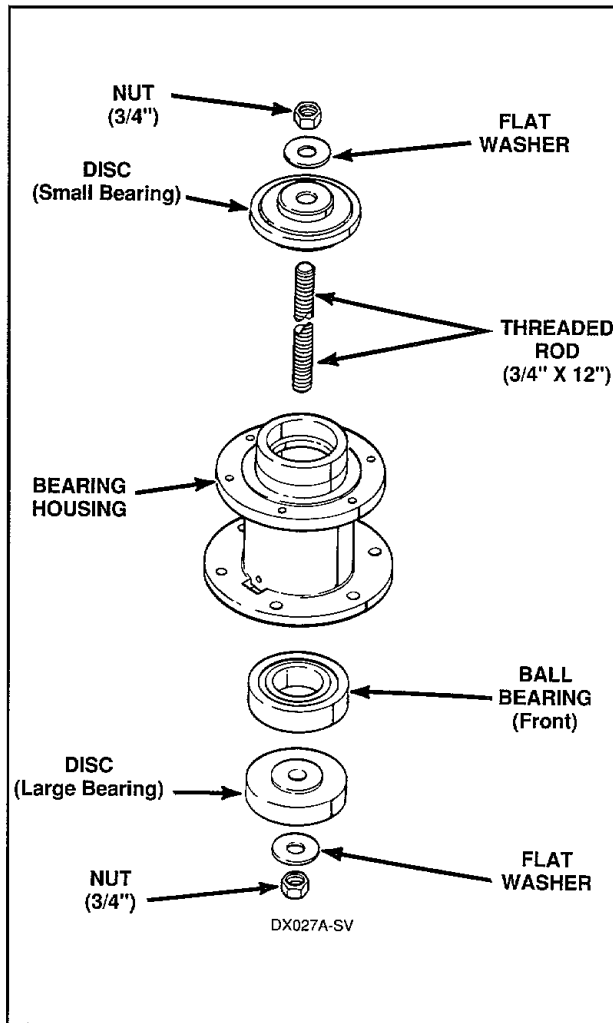

Figure 28
- Place one each $\frac{3}{4}$ inch flat washer and nut on end of the $\frac{3}{4}$ x 12 inch threaded rod, *Figure 28*.
- Place the large bearing disc and front bearing on the threaded rod, *Figure 28*.
- Insert the threaded rod through the bearing housing and install the small bearing disc and the second $\frac{3}{4}$ inch flat washer and nut on threaded rod, *Figure 28*.
- Tighten nuts on threaded rod; pulling the front bearing into the bearing housing until it bottoms against the shoulder in the housing, *Figure 28*.
- Remove nut, flat washer and small bearing disc from threaded rod, *Figure 28*.